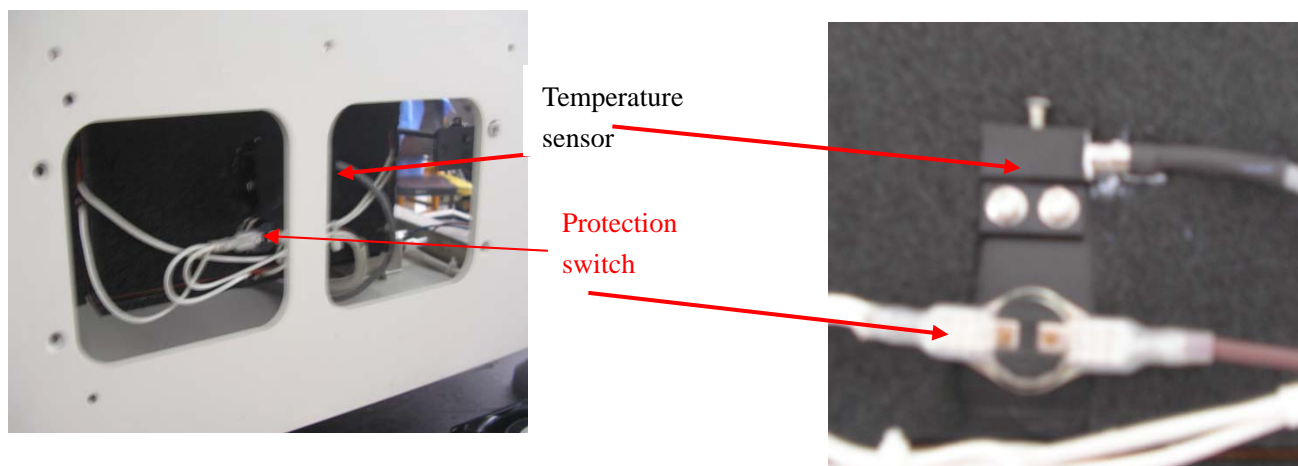

Fig4
- a、 Open the right cover and you will see the over-heating protection switch of paraffin tank (as showed in Fig.4).